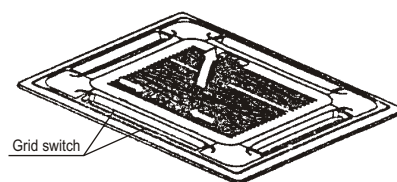

Fig.21
(1) Remove the inlet grid.
- a. Slide two grid switches toward the middle at the same time, and then pull them up. (Refer to Fig.21)